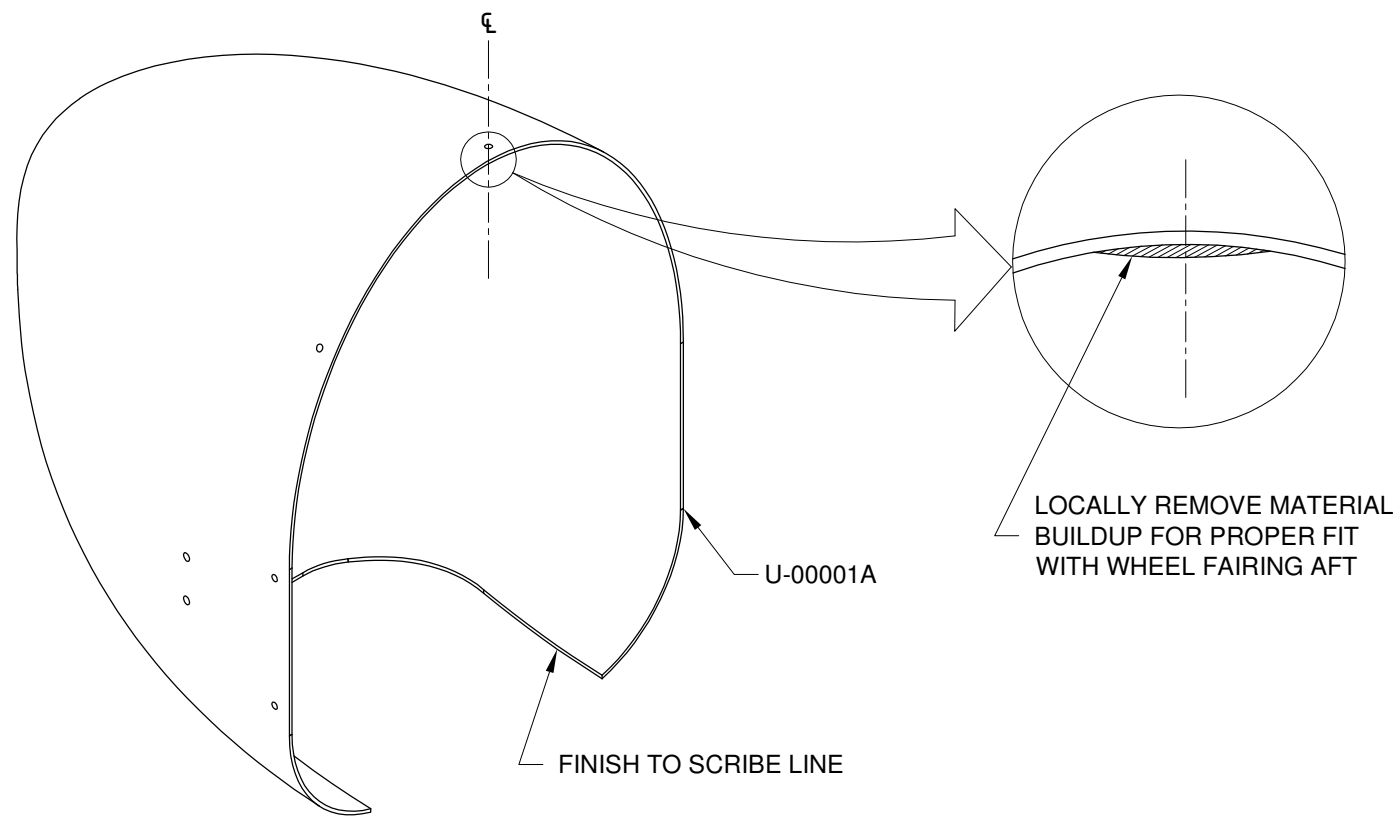

FIGURE 1: PREP FRONT FAIRING
Step 1: The U-00001A Wheel Fairing Front has been laid up so that there are overlapping layers of cloth along its centerline. The area of overlap is thicker than the rest of the fairing. Sand down this thicker area so that at least 3/4 inch [19.1 mm] of the aft edge of the wheel fairing front is the same thickness all along its length. See Figure 1 Detail.
Finish to the scribe line using a sanding block. See Figure 1.